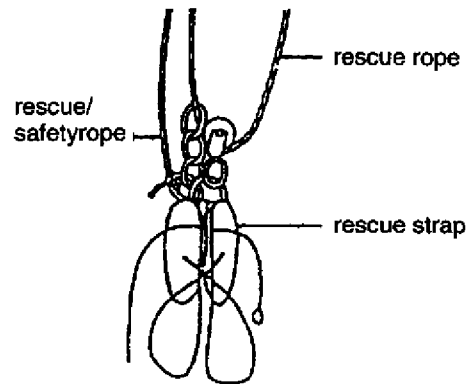

Fig. 7-24
- d. To further ensure safety, tie a bowline with single hitch at the end of another rescue rope, clip a carabiner to the loop, and clip this carabiner onto the D-ring of the rescue strap to support and secure the lift. (Fig. 7-24)